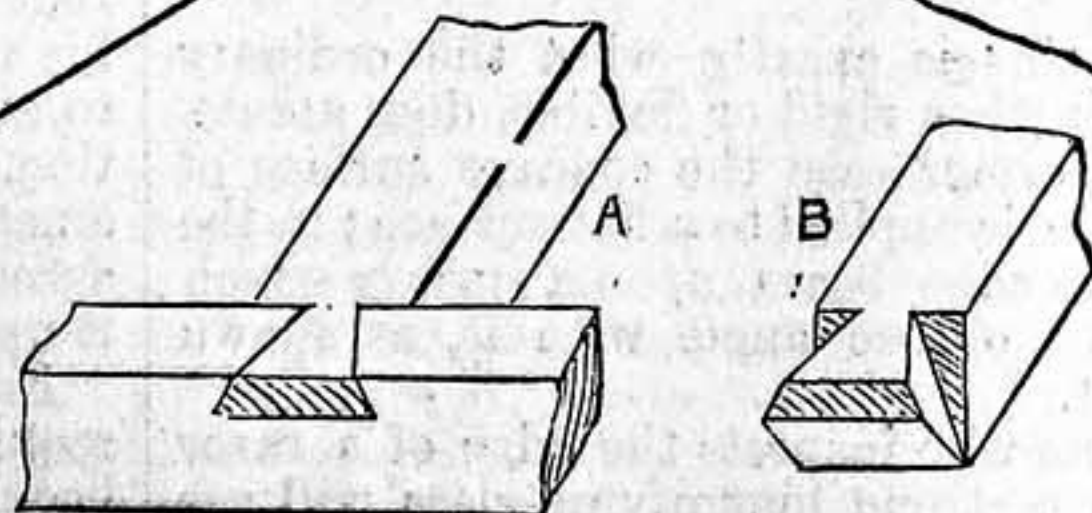
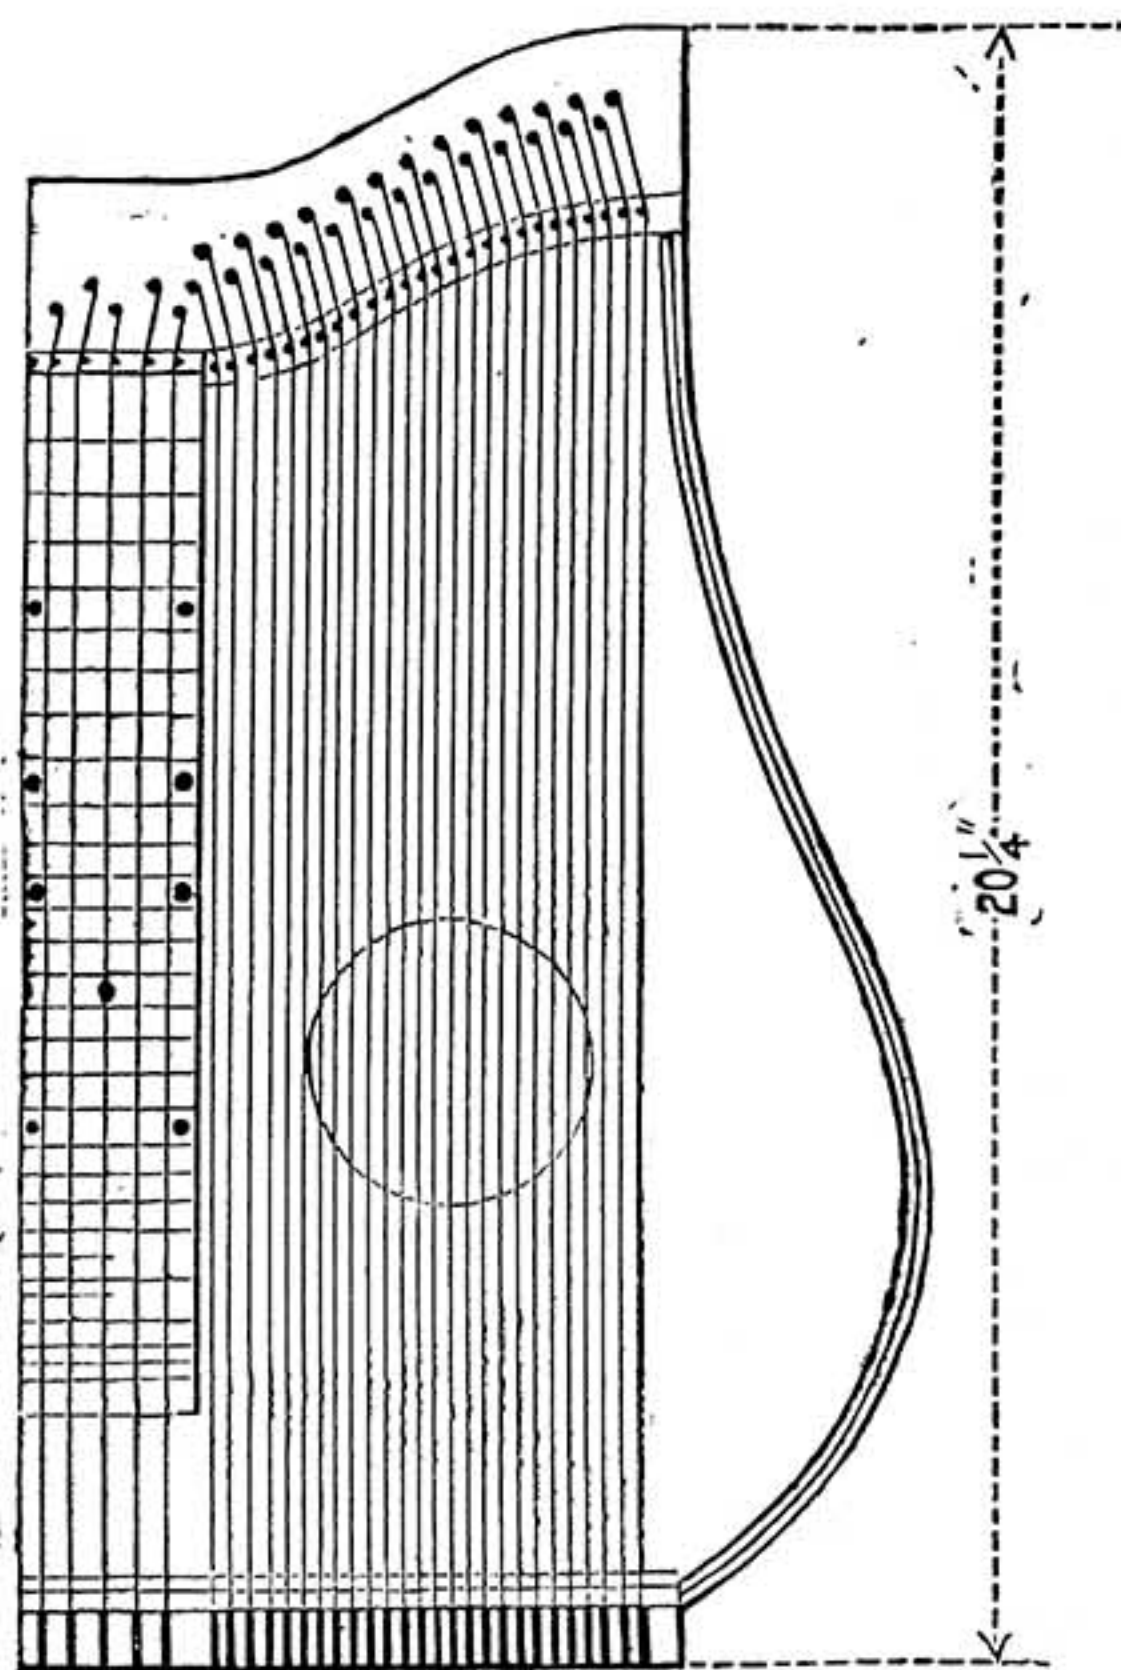
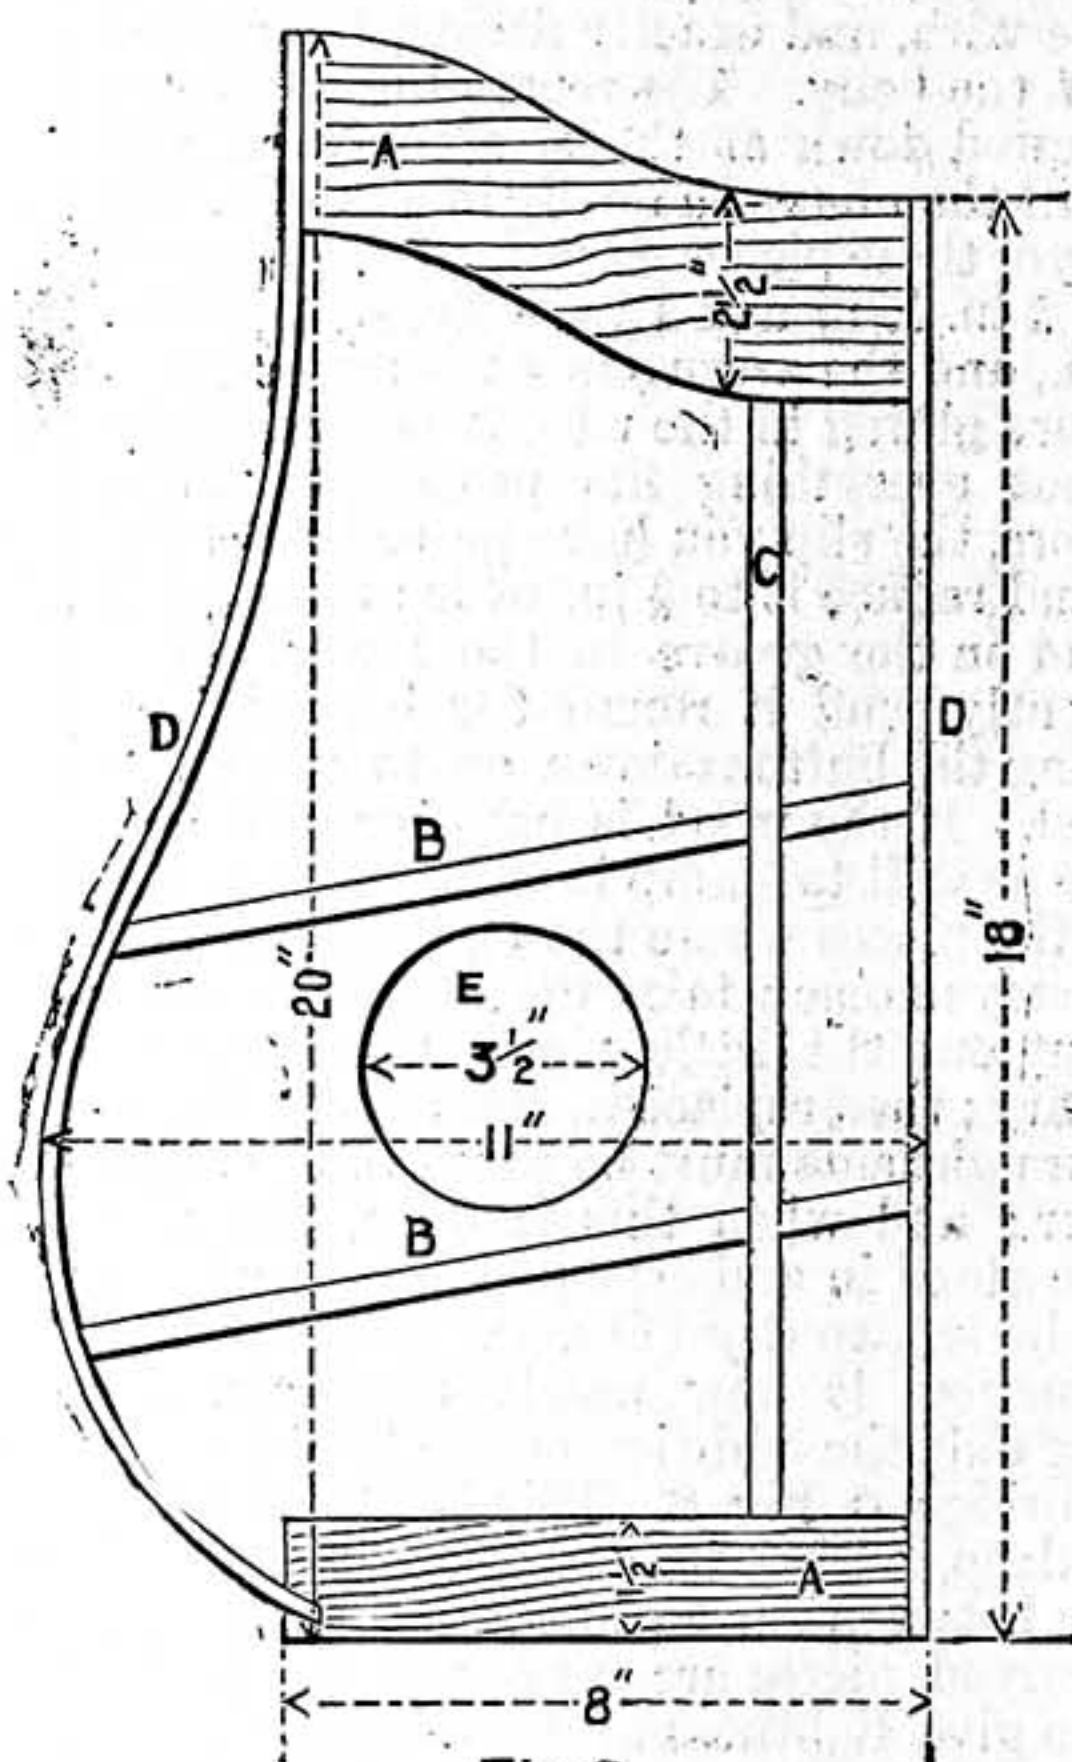
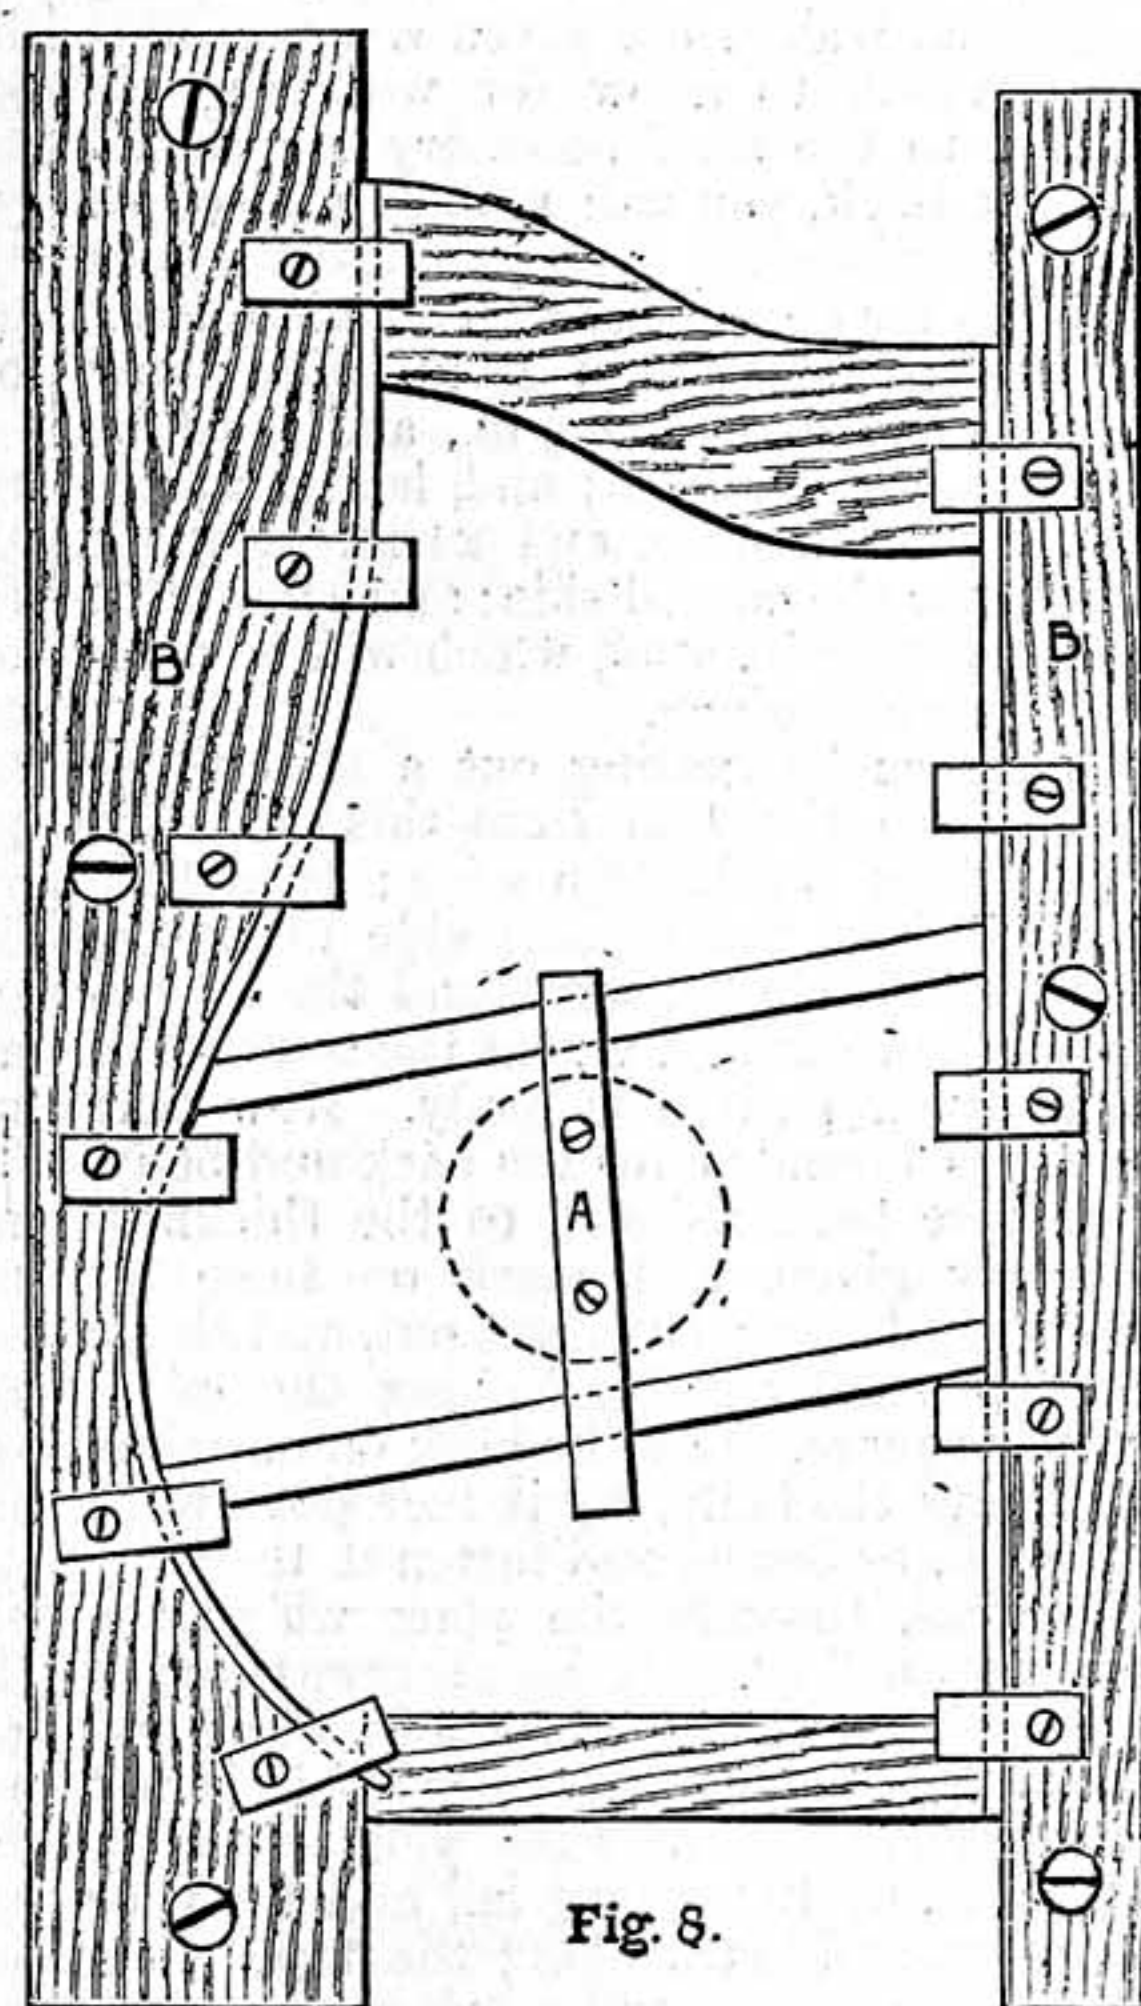

Fig. 8.—Halving Dovetailed both ways.
Fig. 1.
Fig. 2.
Fig. 3.
*Halving Dovetailed both Ways.*—Fig. 8 shows this. A gives the appearance, and the method of putting together may be gathered from B.
already holding the belly down to the board being taken off, and its position altered, of course, using longer screws for this purpose. Fig. 8 shows this arrangement at A. The next parts to get on are the ribs, and for this a mould is required. The piece of wood, 6 in. wide, 24 in. long, and  $\frac{3}{4}$  in. thick, will be required for this. On it lay the curved side of your pattern, and mark along its edge; then cut it out, and clean up the hollow side, and, taking up the buttons from the ends of the stays, screw this down side by side with, and exactly fitting, the curved side of the belly. The remaining piece can be screwed down at the straight side, and you will then have the belly in a mould. On the top of these pieces screw buttons of wood, about 2 in. long and 1 in. wide, at intervals of 3 in., and the arrangement is complete.
Before gluing in the ribs, it is as well to see that everything fits properly. Take, therefore, the slip you have prepared for the ribs, and reduce it to  $\frac{3}{4}$  in. wide; then insert one end in the groove in the lower block, and gently bend it round the curved side, screwing the buttons down on to it as you proceed. If the wood is harsh or brittle, it will be as well to damp it before doing this. Mark the places where the ends of the diagonal stays come; take the slip out again, and cut out the little pieces that may be necessary; then replace it, and fit accurately. The straight side must be fitted in the same manner; and when this is done, the ribs may be glued in and cramped down, and the whole be left to dry (Fig. 8). The interior construction is now nearly complete, requiring only the addition of the long stay or inner bridge, C, Fig. 2. This is  $13\frac{1}{2}$  in. long,  $\frac{3}{4}$  in. deep, and  $\frac{3}{8}$  in. thick, and must fit tightly between the top and bottom blocks. Two curved pieces are cut out of the under edge to give lightness to it, and two square pieces out of the upper edge to receive the diagonal stays; and if the blocks are thoroughly dry, this long stay may be glued into its place. Another interval for drying, and the cramps may all be taken off, the shell taken out of the mould, and the sound-hole cut. This is  $3\frac{1}{2}$  in. in diameter, and must have its edges neatly rounded. A straight-edge must now be passed over the blocks, ribs, and stay, to see that all are exactly level, and any inequality must be rectified. When all is ready, the back may be prepared for fixing. Glue a small block, 1 in. square and  $\frac{1}{2}$  in. thick at the widest part of the inside of the back,  $\frac{3}{16}$  in. from the edge; this is to take the stem of a foot that will afterwards be fastened in. Mark on the outside of the back where the centre of this block comes. Now replace the shell in the mould, and re-fix the buttons in their places, turning them to one side to leave the top edges of the ribs bare. All being ready and your glue quite hot, pass a warm flat-iron several times over the blocks to get them warm; then glue quickly all the points of contact with the back—viz., the blocks, the edges of the ribs, and the feet of the long stay; and, as soon as this is done, clap the back on, and weight down at top and bottom; turn the buttons into their places, and screw down. As this operation of getting on the back is a very important one, it being absolutely necessary that the contact with all the points should be perfect, it is better not to attempt it by one's self, but to get a little assistance. When all is quite dry, the instrument may be taken out of the mould, the edges cleaned up, and, with the back and belly, thoroughly smoothed with glass-paper. When this is done, prepare the bridges and finger-board. First
Fig. 1.—General Plan of Zither, on Scale of 2 in. to 1 ft. Fig. 2.—Plan of Underside of Belly, showing Arrangement of Blocks (A, A), Diagonal Stays (B, B), Long Stay (C), Ribs (D, D), and Position and Form of Sound-Hole (E), on Scale of 2 in. to 1 ft. Fig. 3.—Elevation of Long Stay on Scale of 2 in. to 1 ft. Fig. 4.—Elevation of Diagonal Stays—A', Section at A, on Scale of 2 in. to 1 ft. Fig. 5.—Full-Size Section of Upper Block and Bridge (B), with Pressure-Bar (A), Bridge-Pin (C), Wrest-Pins (D, D), Belly (E), Back (F), and Block (G). Fig. 6.—Full-Size Section of Lower End of Zither, showing Direction taken by Strings (F) through Lower Bridge (D); Other Parts shown being Belly (A), Back (B), Block (C), Hitch-Pins (E), and Pressure-Bar (G). Fig. 7.—Method of cutting out Top Block (A) and Bottom Block (B), on Scale of 2 in. to 1 ft. Fig. 8.—Method of cramping down Ribs and Stays—A, Stay Cramp, also holding down Belly to Board; B, Mould with Buttons.
of ivory or pearl,  $\frac{3}{16}$  in. diameter. Two are inserted half-way between the fourth and fifth, the eighth and ninth, the eleventh and twelfth, and the eighteenth and nineteenth frets; one on each side of the board; and one between the fourteenth and fifteenth, in the centre. These dots are guides to fingering (Fig. 1). The board may now be placed in position. First, warm it well; then glue it over, and quickly lay it in its place, giving it a rub up and down to set the glue, and taking care that the nut is level with the groove in the upper bridge, and the outer edge flush with the straight side. Clean off the glue that has squeezed out, and set aside
being played. The back and ribs may now be stained and the instrument polished, unless you wish to try your hand at purfling. In this case you will require a purfling chisel and about 4 ft. of purfling, to go round the curved side and the sound-hole. When polished, the wrest-pin block may be bored. First, bore the holes for the melody strings. A reference to Fig. 1 will show where these are to be, and care must be taken that they are a little to the right of the holes for the nut pins. The pins for the accompaniment strings occupy the centre portion of the block, are  $\frac{7}{16}$  in. apart, and are placed in two rows,  $\frac{3}{4}$  in. apart, the pins of one row alternating
Fig. 1.—Diagram showing Construction of Box, and open and movable Bottom formed of broad Laths. Fig. 2.—Plan of Box seen from above—A, A, Ledges. Fig. 3.—Plan of Bottom.
are provided by a trellis bottom, which is raised about 1½ in. This, as a convenience of manufacture, and that it may be renewed if desirable, is loose. Improved form is obtained by allowing the front of the box to project beyond the ends of box, and shaping it. Inexpensive artistic effect is produced by a painted decoration, although tiles may be applied, if desired. With regard to the strength of this box, the improved method of construction ensures that, unless it is really broken to pieces, it will not give way. Such a box, 3 ft. 6 in. long and decorated as model, can now be sold for 10s. 6d." I agree with Mr. Jacob in all he has advanced with regard to his box. The open bottom, which is movable, certainly provides ample means of drainage and means also of aëration or, as he terms it, ventilation. The construction of the window-box, as described by Mr. Jacob, is shown in Fig. 1, from which it will be seen that the front and back are nailed to the ends, and that the front, which projects beyond and over the edge of the brick-work forming the side of the window, is shaped. Fig. 2 shows a plan of the box as seen from above, and from this it will be noted that two slips, A, A, about 1 in. square, are nailed to the inner surfaces of the front and back, at a little distance above the lower edge. These ledges receive and sustain the ends of the broad laths of wood which form the bottom, and which are nailed on to two laths running transversely from end to end. The way in which the bottom is made is shown in Fig. 3. The laths need not be so far apart as shown in Fig. 3; it will be sufficient if they are about ½ in. apart and 2 in. in breadth. If the plants are grown in mould placed in the box, a layer of moss or coarse cocconut fibre should be strewn over the laths.